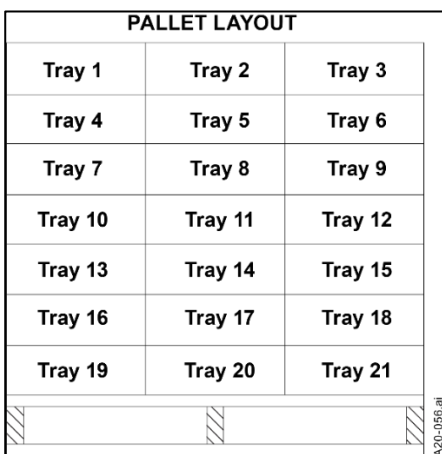

Figure 4 Stacking order.
- Trays should be stacked in reverse sequential order and clearly labelled; that is, with the deepest tray first (Tray 21) up to shallowest tray on top (Tray 1). (**Figure 4**).